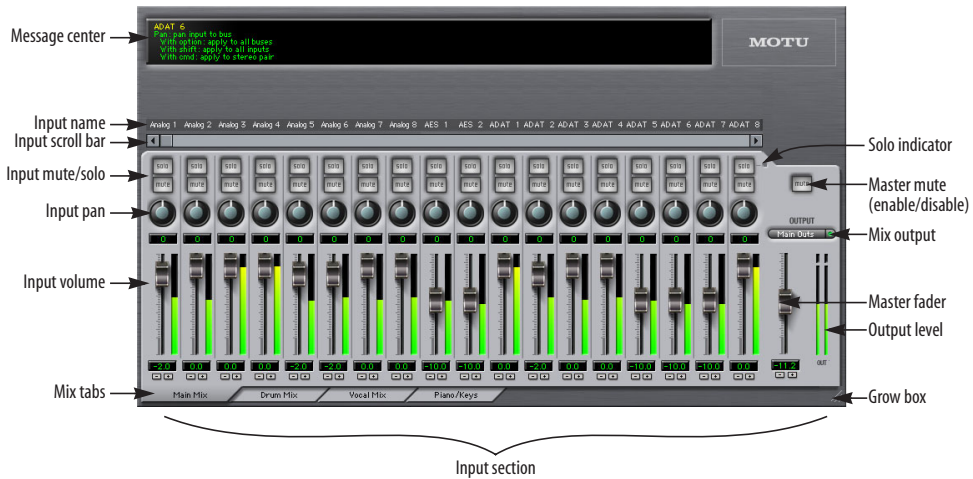

Figure 12-1: CueMix Console is a virtual mixer that gives you control over the 896HD's on-board mixing features.
CueMix Console displays one mix at a time. To select which mix you are viewing, click its tab at the bottom of the window, as shown in Figure 12-1. The mix name appears in the tab. Double-click the name to change it.
To view more input faders at once, drag the grow box (Figure 12-1) to the right.
To view a mix, click its tab at the bottom of the window, as shown in Figure 12-1. The mix name appears in the tab.
The master mute button (Figure 12-1) temporarily disables (silences) the mix.
The master fader (Figure 12-1) controls the overall level of the mix (its volume on its stereo output). Use the individual input faders to the left to control individual input levels.
To add an input to a mix, or remove it, click its MUTE button. To solo it, use its SOLO button. To toggle these buttons for a stereo pair, hold down the command key while clicking either channel. The Solo indicator LED (Figure 12-1) lights up when any input is soloed (including inputs that may currently be scrolled off-screen).
Use the input fader and pan knob (Figure 12-1) to adjust these settings for the input in the mix. Again, all settings within the gray-shaded channel strip area belong to the mix currently being viewed. Note that an input can have different settings in different mixes.
- 1 Select the source mix (Figure 12-1) and choose Copy from the file menu (or press command-C).